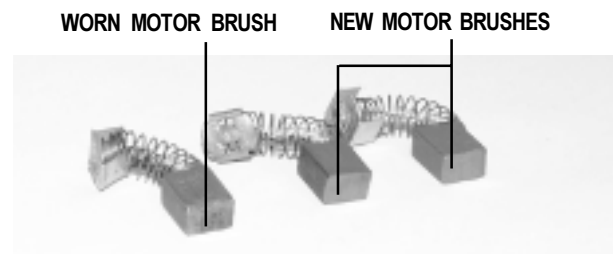

Figure 26. Motor Brushes
4. Inspect for wear. See figure 26.